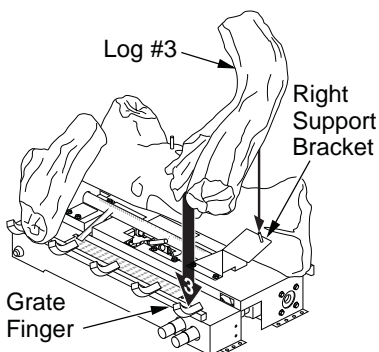

Figure 26 - Installing Right Log (#3)
4. Place left end of front log (#4) under left side log (#2). Align hole in bottom of right end of log #4 with peg in front of right support bracket (see Figure 26). Lower log onto peg.